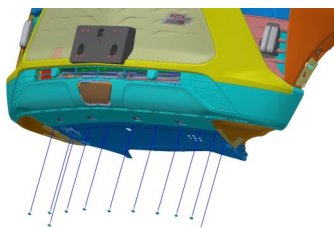

Figure 4a
1. Remove the 11 bolts from the underside (Figure 4a) with a 7mm socket.